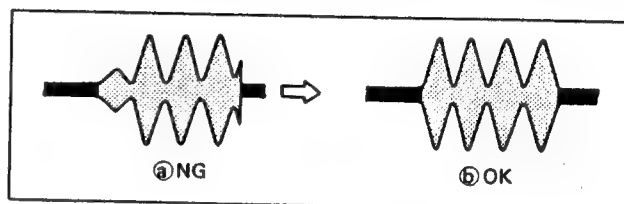

Fig. 2-41.
- 3) In REV mode, monitor the waveform (See Fig. 2-41.)
● When the waveform is no good (as shown in Fig. 2-41. a), perform height preset steps of "Presetting Height of No.4 Guide" then go to the step 4) below.